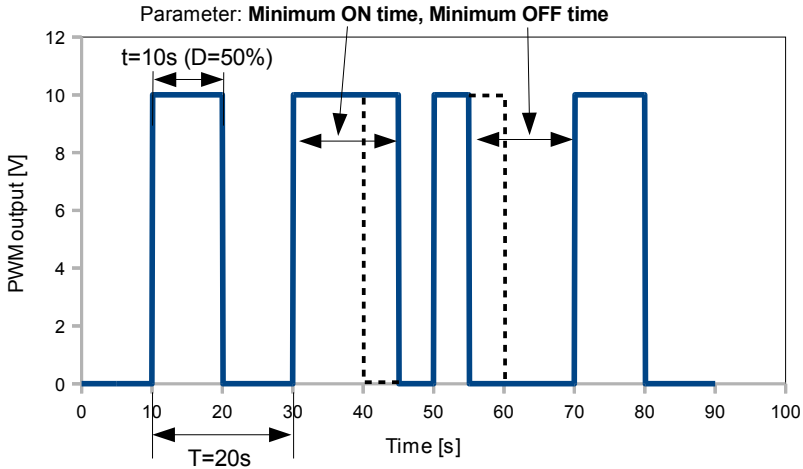

Fig. 7.93. Sample of output signal of SSR relay in PWM mode
- **Minimum ON time** - minimum duration of a high state (after switching to a high state, switching back is possible after **Minimum On time**), see **Fig. 7.93**,
- **Minimum OFF time** - minimum duration of a low state (after switching to a low state, switching back is possible after **Minimum OFF time**), see **Fig. 7.93**,